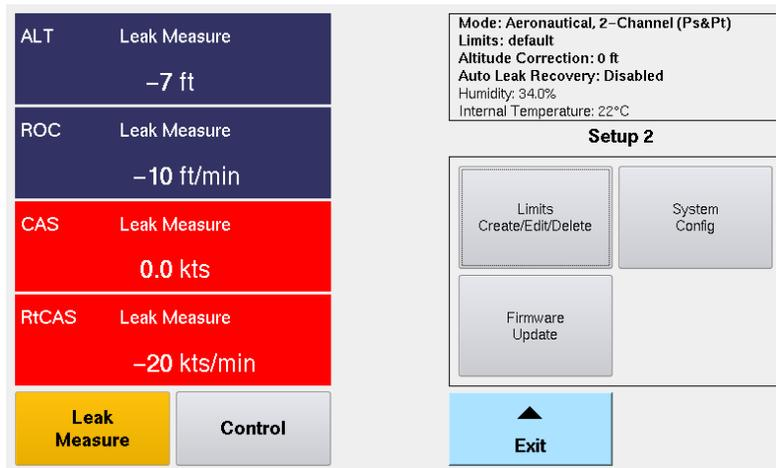

Figure E. 3 Setup 2 Screen
- On the numbered keypad, enter the user **PIN** code (default code is “123456”). Touch “Enter”, “Setup 2” screen is displayed (Fig. E. 3).